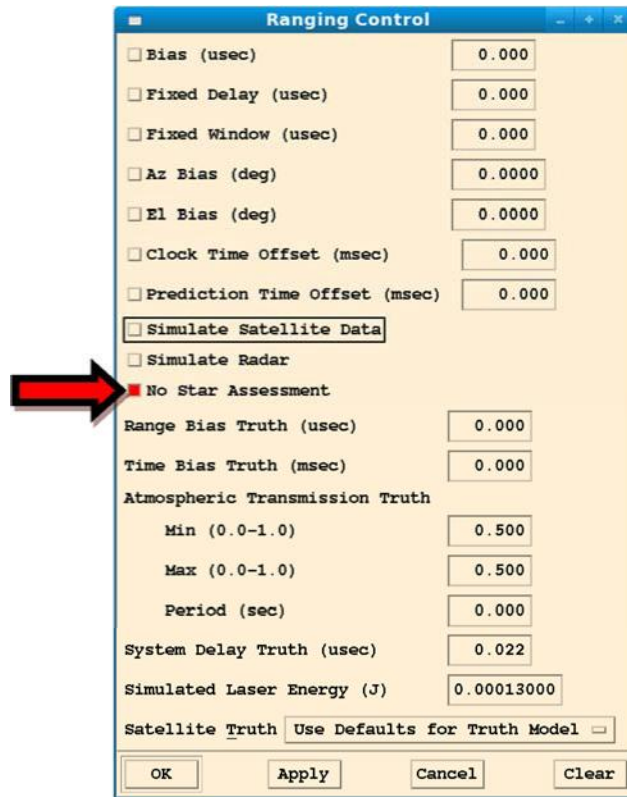

Figure 3-17: Ranging control window
- c. **Control => Ranging;** Select the **No Star Assessment** checkbox (Figure 3-17).